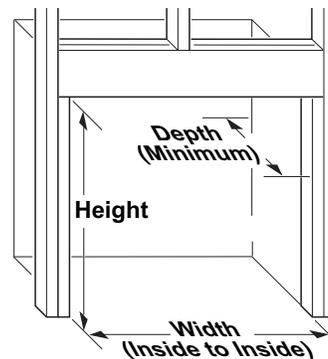

Figure 13 - Rough Opening for Installing in Wall
- Frame in rough opening. Use dimensions shown in **Figure 13** for the rough opening. If installing in a corner, use dimensions shown in **Figure 14, Page 13; Figure 13**, for the rough opening.